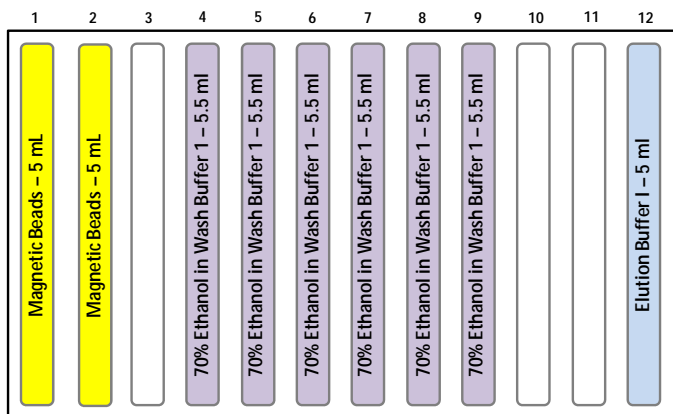

Figure 8. Magnetic Beads and Buffers for Purification.
2. Thoroughly shake the bottle with magnetic beads. Pipette 5 ml into columns 1 & 2 of the V-Groove Reservoir (Figure 8).